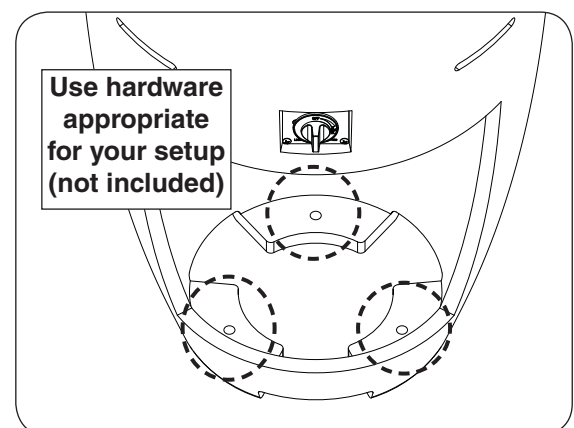

Fig. 15-4 Mount urn to floor
2. Using appropriate mounting hardware for the floor material/construction, secure the urn into the floor. The interior of the urn has three $\frac{1}{2}$ " holes that will allow for the urn to be fastened to the floor. See Fig. 15-4.